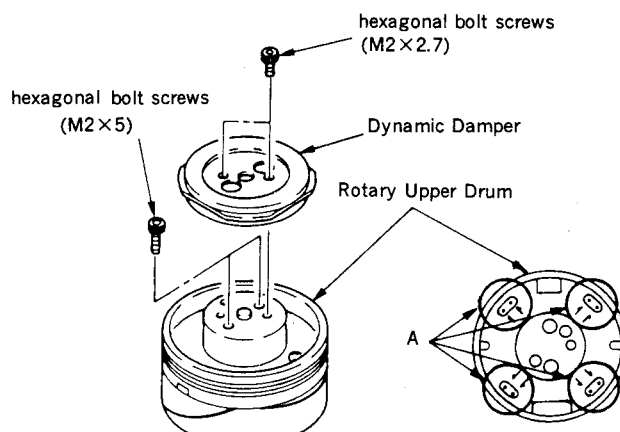
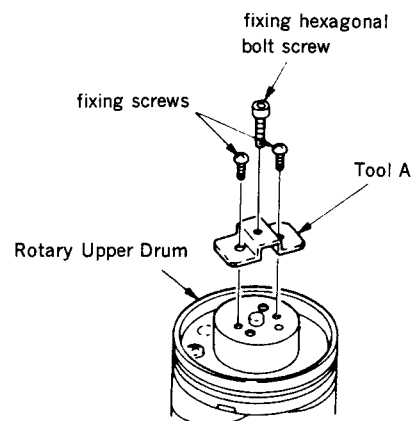

Fig. 1
Fig. 2
- (1) Open the MB-19 Board referring to Section 2-5-5.
- (2) Remove the Fly Wheel reffering to Section 4-1.
- (3) Remove the two screws (M2 X 2.7) and remove the Dynamic Damper.
- (4) Unsolder the ten terminals at A positions. Check that the terminals which are projected out from the PC Board move freely with a pair of tweezers, etc. (fig. 1)
- (5) Remove the two screws (M2 X 5).
- (6) Install the tool A to the two screw holes of installing the Dynamic Damper with the two accessory supplied screws. Thread the accessory supplied hexagon screw into the center hole of the tool A, and remove the Rotary Upper Drum. (fig. 2)